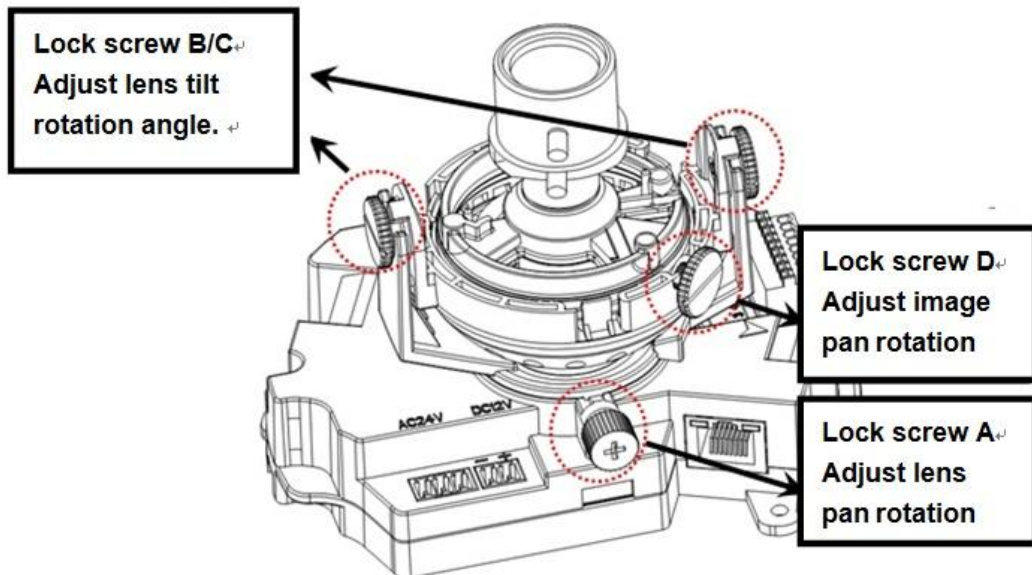

Figure 3-14
b) Lens pan rotation angle setup. Please refer to Figure 3-14 to unfasten the lock screw A and adjust the pan monitor angle to the proper position. Then fix the lock screw A. The pan angle ranges from 0° ~ $+350^{\circ}$.
c). Lens tilt rotation angle. Please refer to Figure 3-14 to unfasten the lock screw B and lock screw C and adjust the tilt monitor angle to the proper position. Then fix the lock screw B and lock screw C. The tilt angle ranges from -20° ~ $+70^{\circ}$.
d). Image pan rotation angle setup. Please refer to Figure 3-14 to turn lock screw D to adjust the video pan angle. Then fix the lock screw B and C. The video pan angle ranges from 0° ~ $+350^{\circ}$.
Please note Figure 3-14 is based on the IR motorized zoom camera. For the IR manual zoom camera and non-IR series product, the lock screw position and the lens angle adjustment are the same.